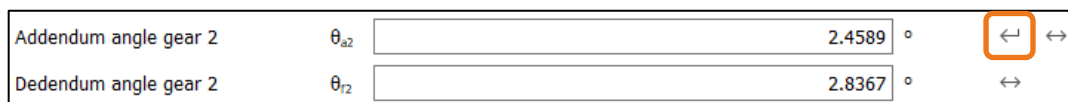

Figure 17. Sizing function for addendum and dedendum angle
8. The «**Basic data**» is where you define the addendum and dedendum angle. We recommend you use the sizing function if you are sizing a new gear. As the angles are affected by the cutter head radius, the reference profile, and the profile shift, you must run the sizing function again if you want to change one of these values at a later point in time (see Figure 17).